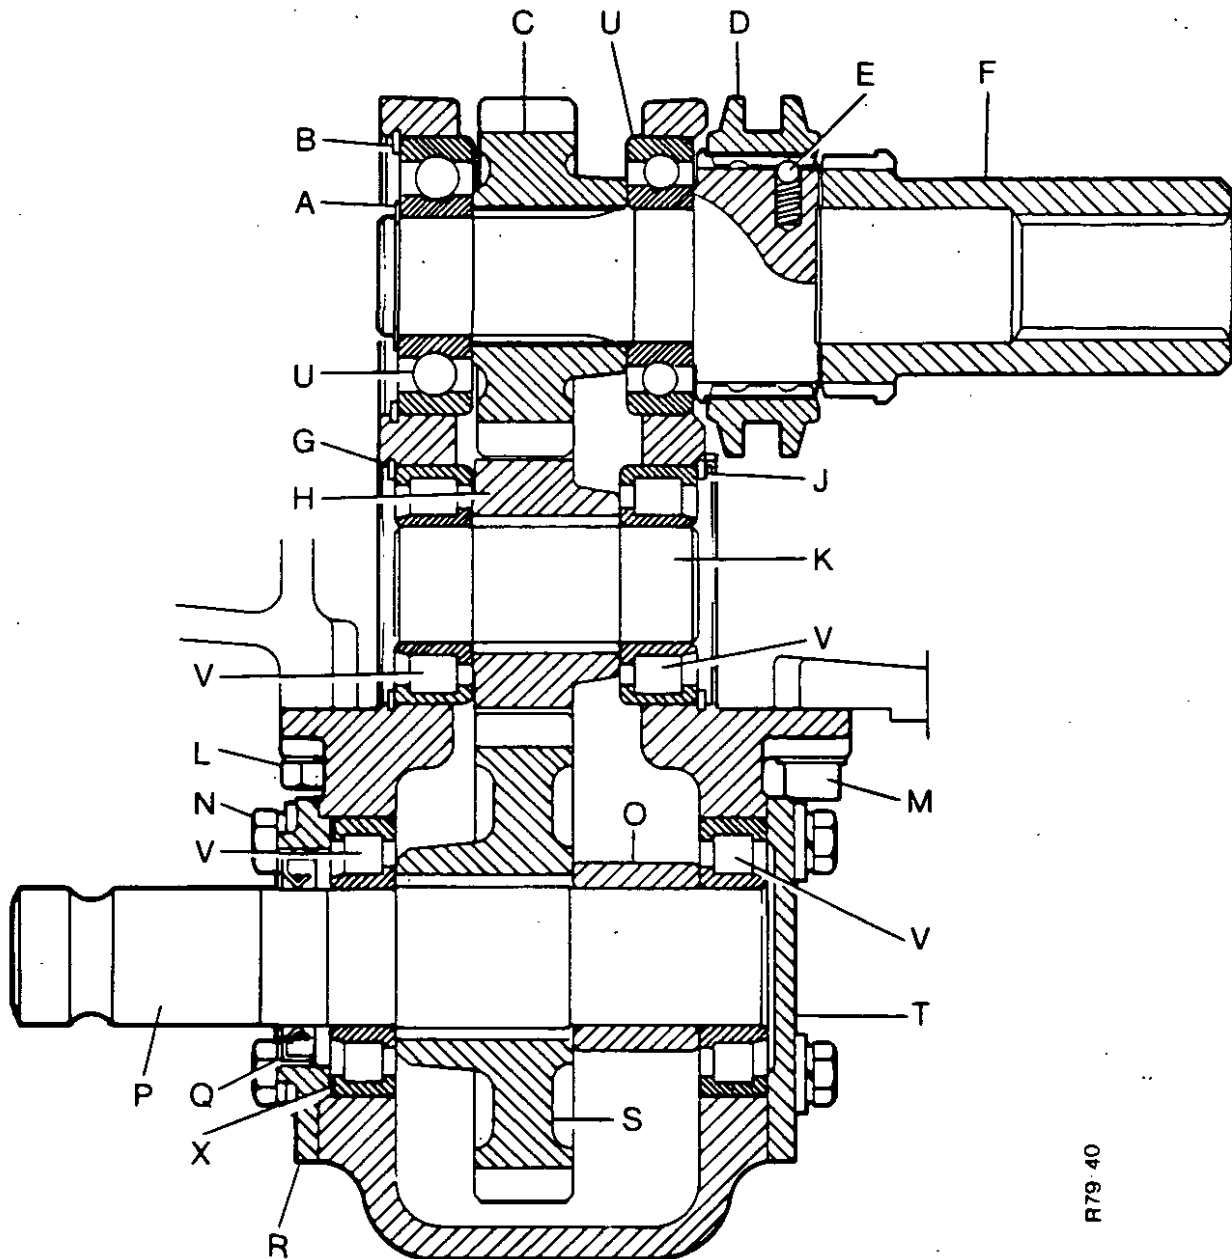

FIGURE 31 TRANSFER GEARBOX ASSEMBLED
22. Install the drive gear F, Figure 31, on the pinion shaft of the main gear box.